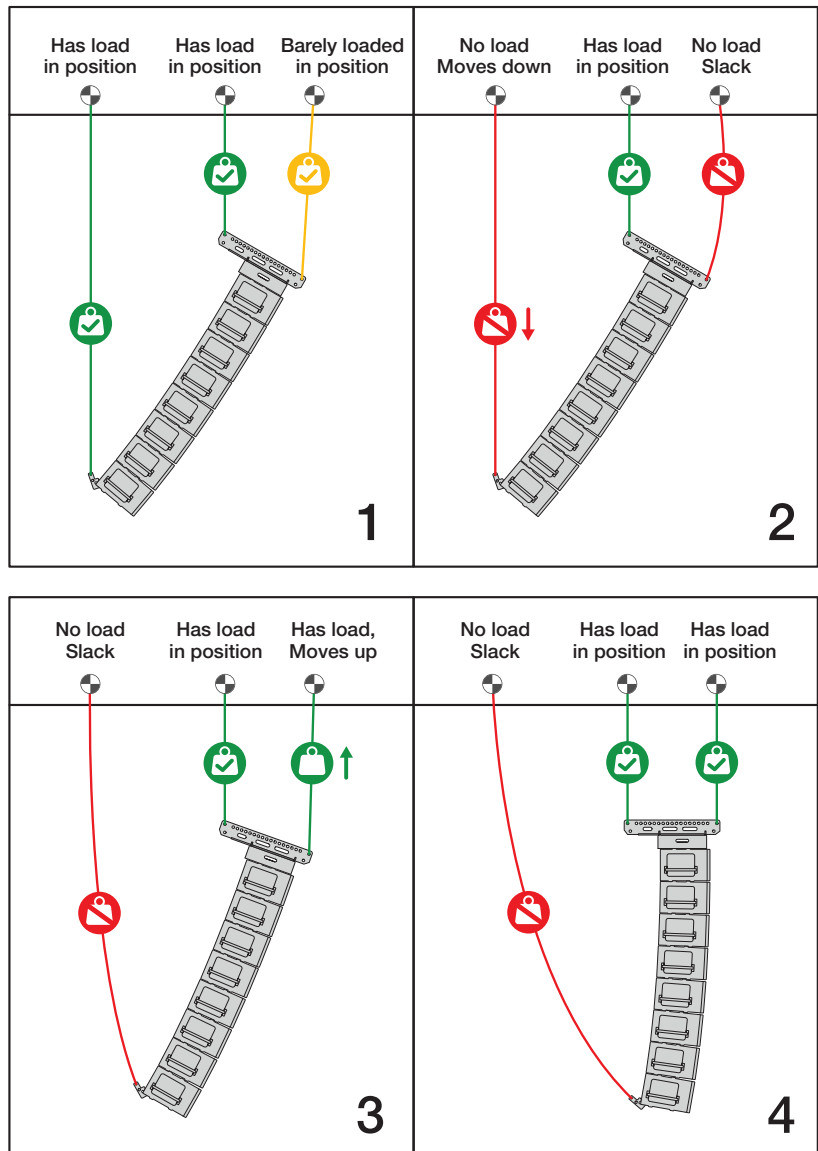

Figure 82. Transition From Pull Back Configuration Steps
1. For arrays in the pull back configuration, follow these steps (see Figure 82):